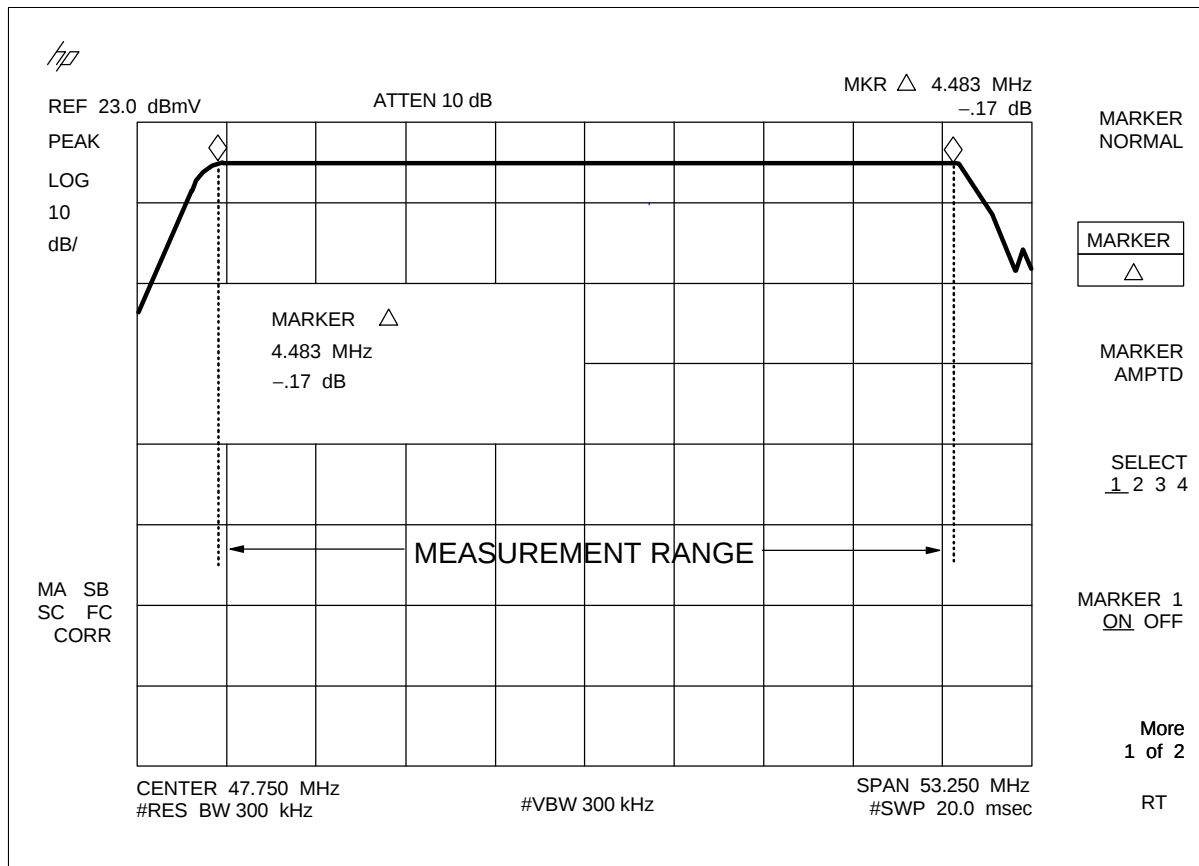

Figure 4.14. Measuring channel frequency response with an RF sweeper and spectrum analyzer.
- 3) Since the sweeper's sweep rate is not the same as the analyzer's sweep rate, the analyzer needs time to accumulate amplitude data in the display. Press TRACE MAX HOLD A SWEEP 750 ms and wait until the line swept is smooth. See Figure 4.14 for the RF input results.